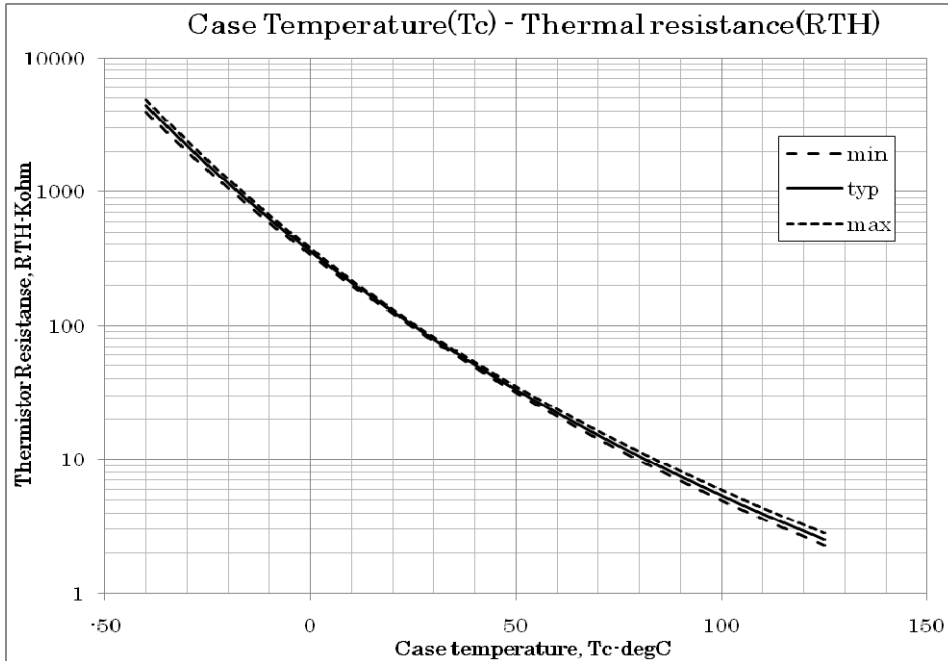
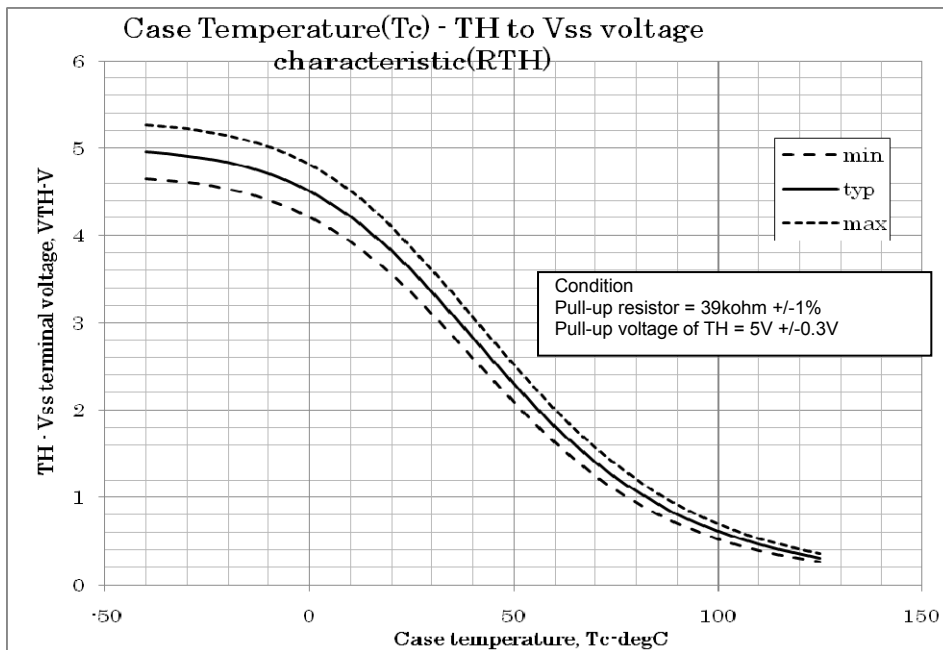

Fig.11 Variation of thermistor resistance with temperature
Fig.12 Variation of temperature sense voltage with thermistor temperature
5. Inside the IPM, a thermistor used as the temperature monitor for internal substrate is connected between  $V_{SS}$  terminal and TH terminal, therefore, an external pull up resistor connected between the TH terminal and an external power supply should be used. The temperature monitor example application is as follows, please refer the Fig.11, and Fig.12 below.